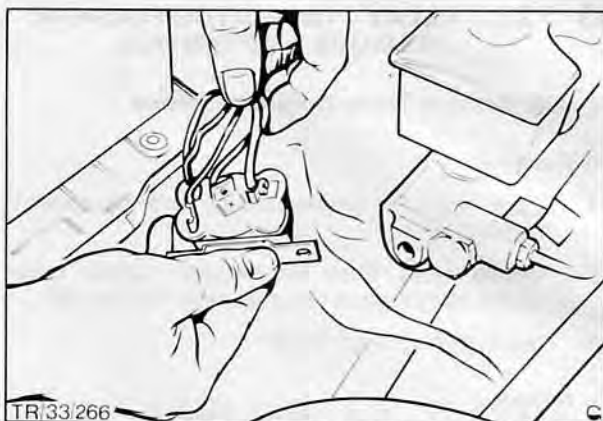

Fig. 46. The glow-plug relay location
2. Detach relay from vehicle battery tray by removing securing screws, Fig. 46.